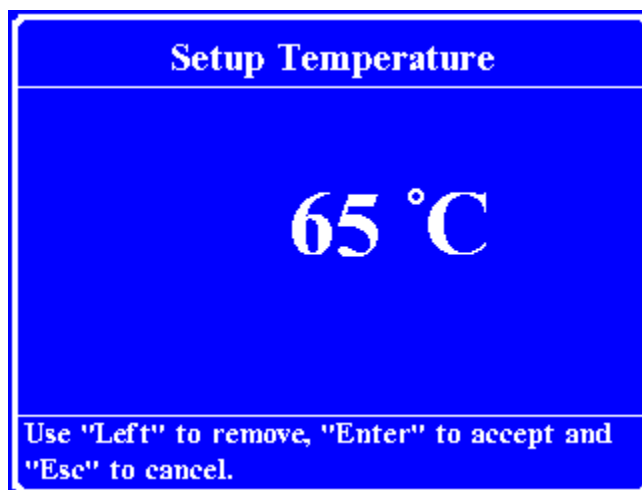

Figure 5-9. Temperature Setup Screen
2. Press Enter to open the Setup Temperature screen. See figure 5-9.